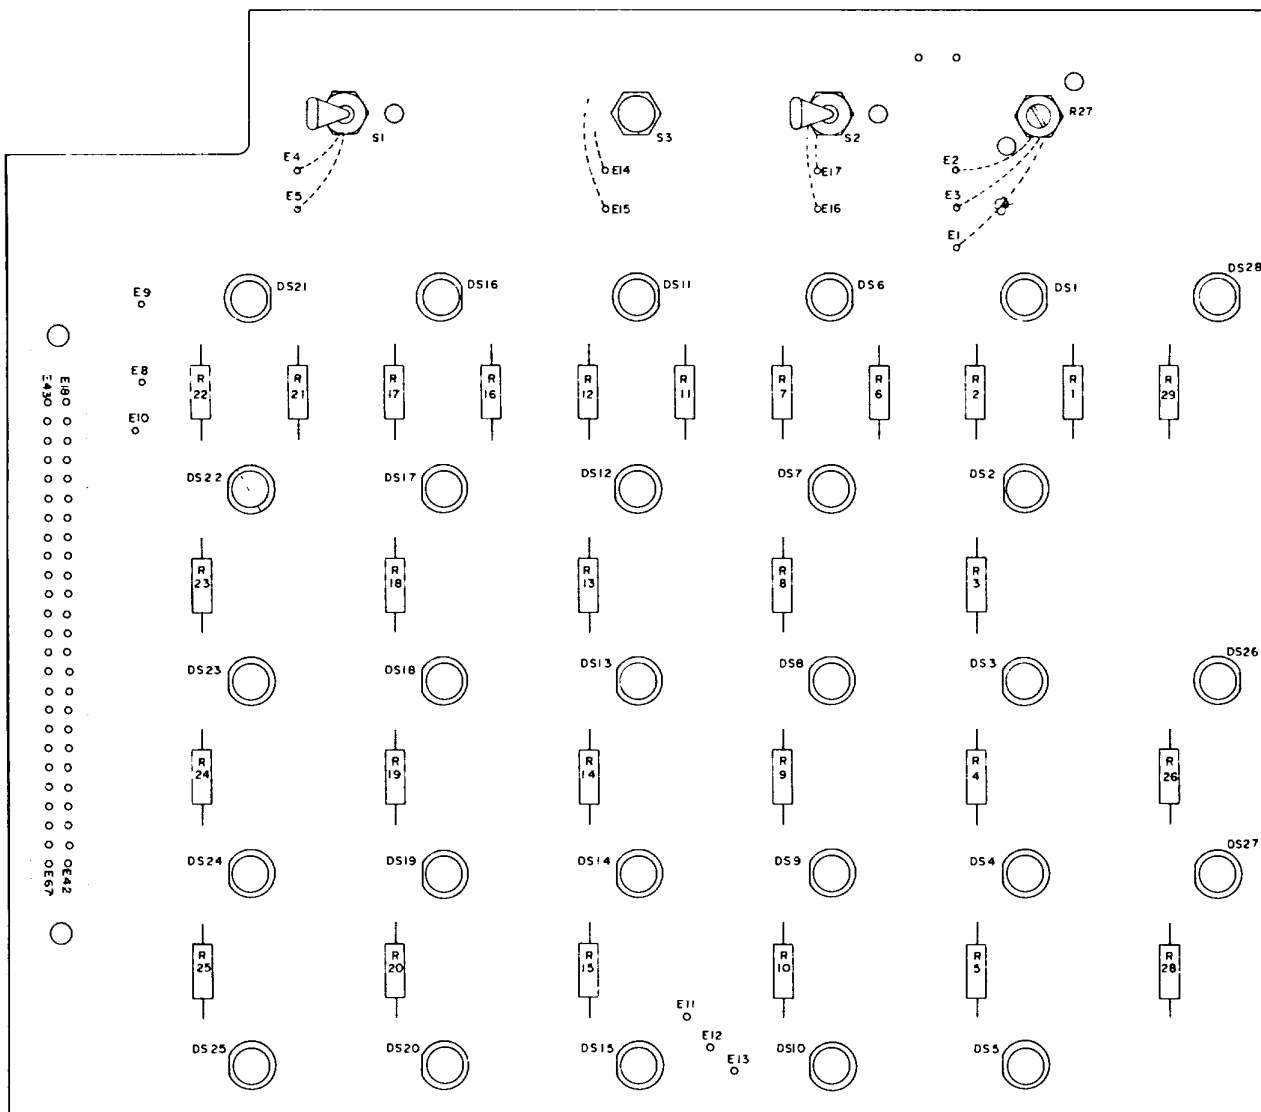

Figure 8-2. LED Display Circuit Card Assembly, 4A1 Parts Location Diagram
b. LED Display Circuit Card Assembly (4A1) Disassembly. This circuit card assembly should be removed only when servicing or component replacement is required. To remove this circuit card assembly, perform the following steps. Further disassembly should be limited to removal of parts for repair or replacement. Refer to figure 8-2 for location of component to be replaced.
- (1) Remove four screws, washers and electrical spacers holding the LED Display circuit card assembly to the front panel.
- (2) Remove and tag the 44 wire leads on the ribbon cable from the LED Display circuit card assembly.
- (3) Disconnect and remove VOLUME, ON/OFF and ALARM SILENCE switches from front panel.
- (4) Remove the LED Display circuit card assembly from the chassis assembly.